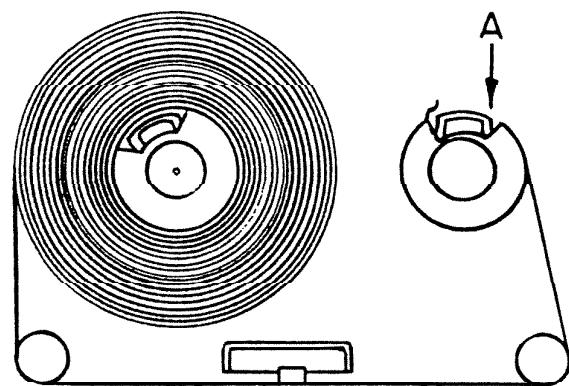

Fig. 11
5. Rethread tape as shown in Figure 11. If tape is broken other than at the ends, it is necessary to splice tape using any good splicing tape.